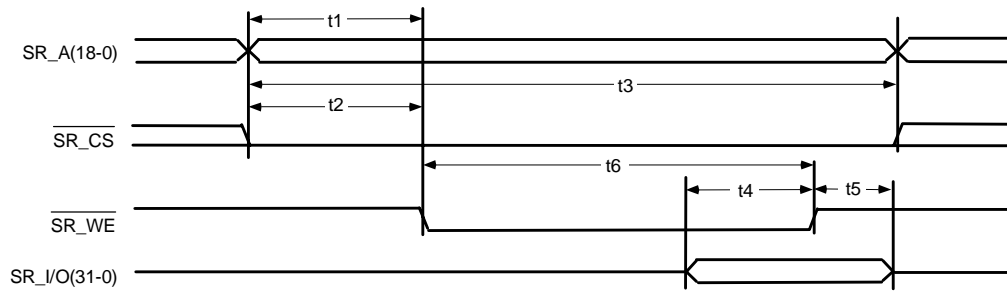

Figure 6 SRAM Bus Write Cycle Timing
**SRAM Bus Write Cycle (See Figure 6)**